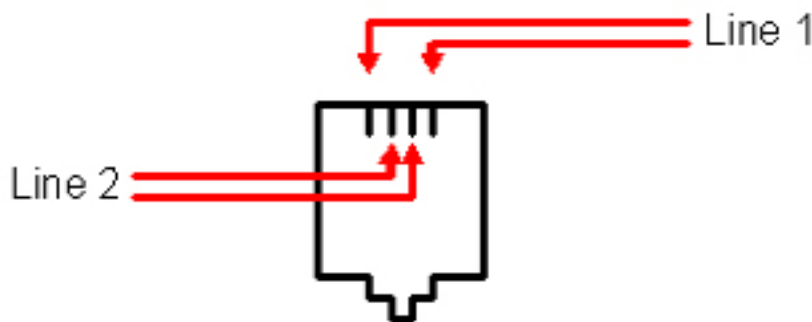

Figure 135: RJ-14 Wiring
**RJ-14** - A telephone jack used to make connections with dry pair. By definition, the RJ-14 has two pair (i.e., four wires). It is often confused with an RJ-11 (two wires). Some phone technicians will call these RJ-11 4 wire jacks. Please note the unique wiring of the RJ-14 for the X-System application in Figure 135.